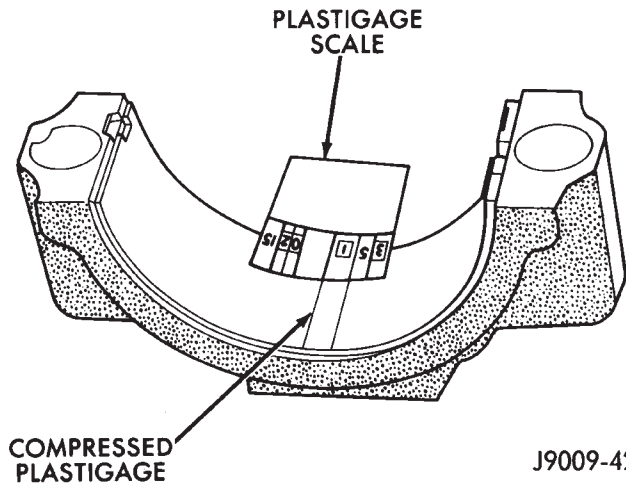

Fig. 7 Measuring Bearing Clearance with Plastigage needed to provide the correct clearance (refer to Connecting Rod Bearing Fitting Chart).
(5) Install the lower bearing insert in the bearing cap. The lower insert must be dry. Place strip of Plastigage across full width of the lower insert at the center of bearing cap. Plastigage must not crumble in use. If brittle, obtain fresh stock.
(6) Install bearing cap and connecting rod on the journal and tighten nuts to 45 N·m (33 ft. lbs.) torque. DO NOT rotate crankshaft. Plastigage will smear, resulting in inaccurate indication.
(7) Remove the bearing cap and determine amount of bearing-to-journal clearance by measuring the width of compressed Plastigage (Fig. 7). Refer to Engine Specifications for the proper clearance. **Plastigage should indicate the same clearance across the entire width of the insert. If the clearance varies, it may be caused by either a tapered journal, bent connecting rod or foreign material trapped between the insert and cap or rod.**
(8) If the correct clearance is indicated, replacement of the bearing inserts is not necessary. Remove the Plastigage from crankshaft journal and bearing insert. Proceed with installation.
(9) If bearing-to-journal clearance exceeds the specification, install a pair of 0.0254 mm (0.001 inch) undersize bearing inserts. All the odd size inserts must be on the bottom. The sizes of the service replacement bearing inserts are stamped on the backs of the inserts. Measure the clearance as described in the previous steps.
(10) The clearance is measured with a pair of 0.0254 mm (0.001 inch) undersize bearing inserts installed. This will determine if two 0.0254 mm (0.001 inch) undersize inserts or another combination is